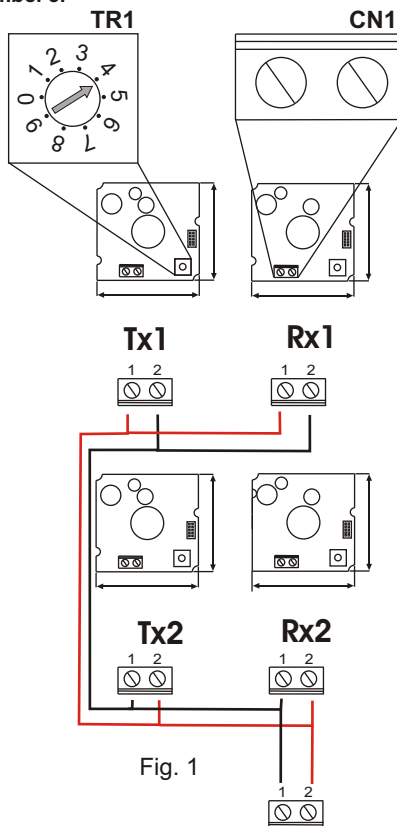

Fig. 1
- Bring the two cables of the TX on the connector CN1 of the receiver as shown in Fig.1.